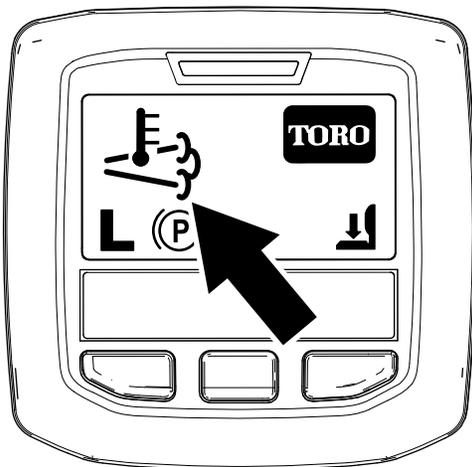

Figure 64
- The high exhaust-temperature icon  displays in the InfoCenter (Figure 64).